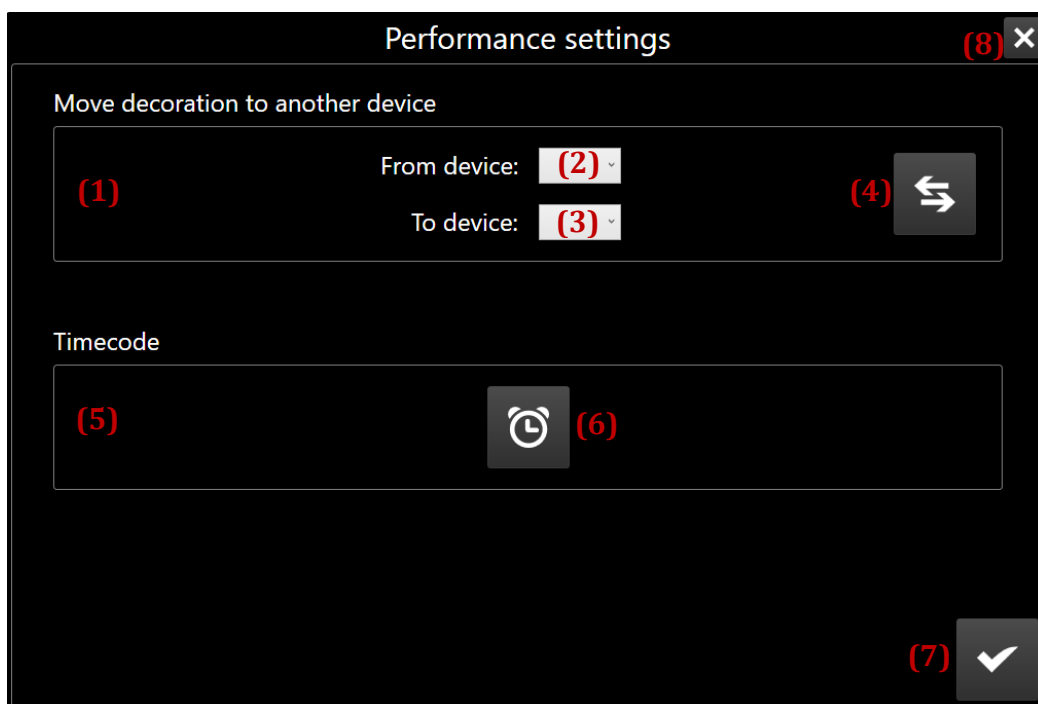

FIG. 34: SETTING THE PERFORMANCE
The screen setting performance (Fig. 34) contains advanced options for setting the currently selected performance. Availability of individual options may vary, depending on the environment where the system is installed. This can be, for example, axis replacement and point hoist shifting. To close the window, use the confirmation key (7) or the cross (8).
Sub-menu in Fig. 34 (1) serves, for example, in case of a device failure for quick replacement of this device in the whole performance for another axis. Select the axis (into the item (2)) to be replaced by the axis in the item (3). Only the axis not yet used in the performance may be selected in the item (3). When confirmed by the key (4), the axis (2) will be replaced by the axis in (3) in all scenes of the current performance.
Timecode allows to start the movement of the device in the specified time. To turn the timecode on/off you need to click the button (6) inside the sub-menu (5) - Fig. 34. Actual state is displayed via the button backlight. Timecode operation is described in detail in chapter sec. 5.3